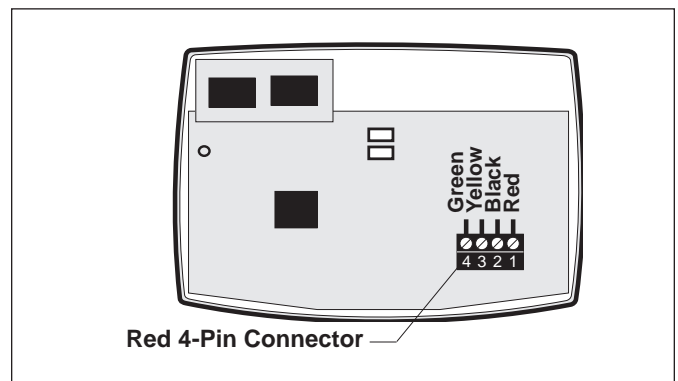

Figure 21. All Button Control Panel PCB
- Drill 1/4" holes at the three (3) mounting screw marks and insert the plastic anchors. Drill a 1 1/4" (min.) to 2" (max.) hole for cable access.
- Remove the red, 4-pin terminal bar from the control panel PCB. Connect the 4 conductor cable to the red, 4-pin terminal bar (see Figure 21). Reconnect the red, 4-pin terminal bar back to the Control Panel PCB.